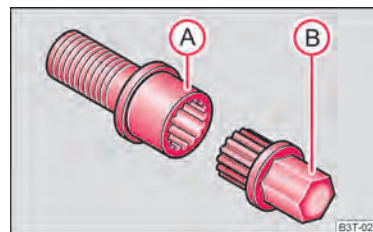

Fig. 191 Illustration image: Safety wheel bolt with adapter
- Insert the adapter (B) with its toothed side fully into the inner tothing of the safety wheel bolt (A) right down in such a way that only the outer hexagon is jutting out $\Rightarrow$ fig. 191.
- Insert the wheel wrench fully onto the adapter (B).